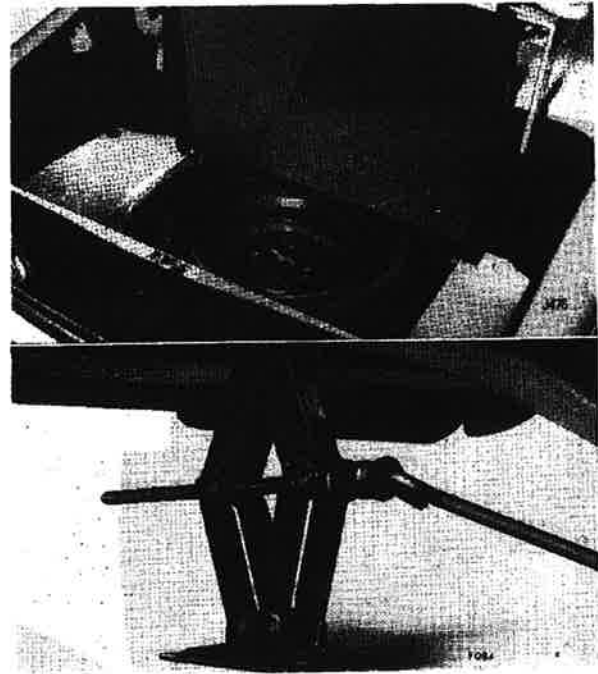

Fig. 31 (upper) Fig. 32 (lower)
3. Remove the spare wheel from below the luggage compartment floor (Fig. 31).